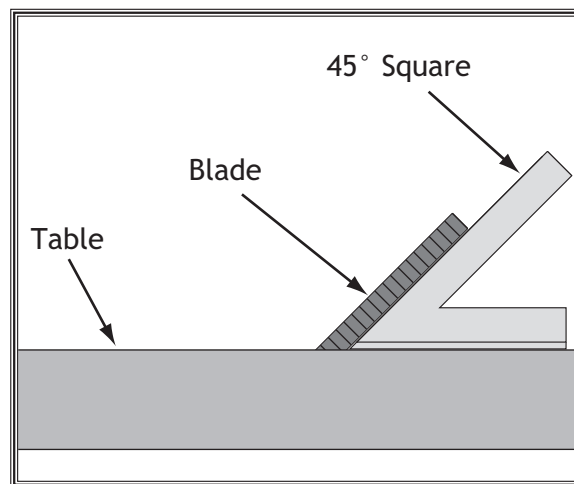

Figure 91. Checking the blade at 45°.
3. Place a 45° square against the table and blade so it contacts the blade evenly from bottom to top, as shown in **Figure 91**. Make sure the square does not contact a blade tooth.
6. Place a 45° square against the blade, as shown in **Figure 91**, then adjust the blade until it is exactly 45° to the table.